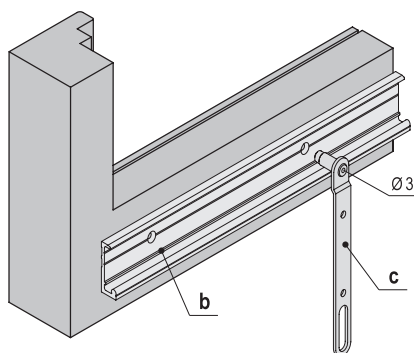

fig. 4
- 4) For proper operation of the system counterbore each screw hole by 3 mm (fig. 4) using jig art. M02030.00.05 (c). Fasten the rail using 4x30 mm screws.